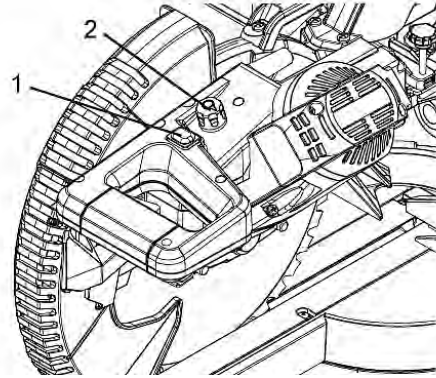

Fig. 29: Switch for varying the speed
Step 1: To turn on the laser, set the toggle switch (Fig. 29) to "ON".
Step 2: To turn the laser off, press the toggle switch (Fig. 29) to "OFF".
Switch for varying the speed (Fig. 29)
This saw is equipped with a variable speed regulator (fig. 29; pos. 2). The speed of the saw blade can be adjusted by simply turning the adjusting wheel:
Speed variability (Fig. 29)